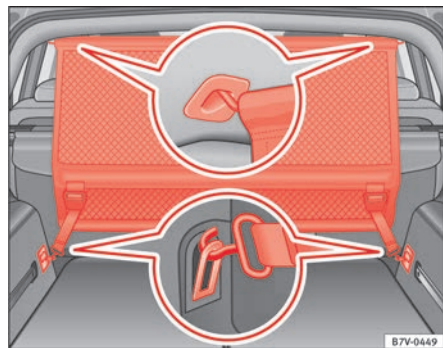

Fig. 94 In the luggage compartment: Install the net partition behind the second row of seats.
- Hook in the net partition on the left-hand side roof support  $\Rightarrow$  fig. 94 ①. To do this, guide the rod from up to down.
- Secure the net partition hooks into the straps in the front of the luggage compartment ② then tighten them.